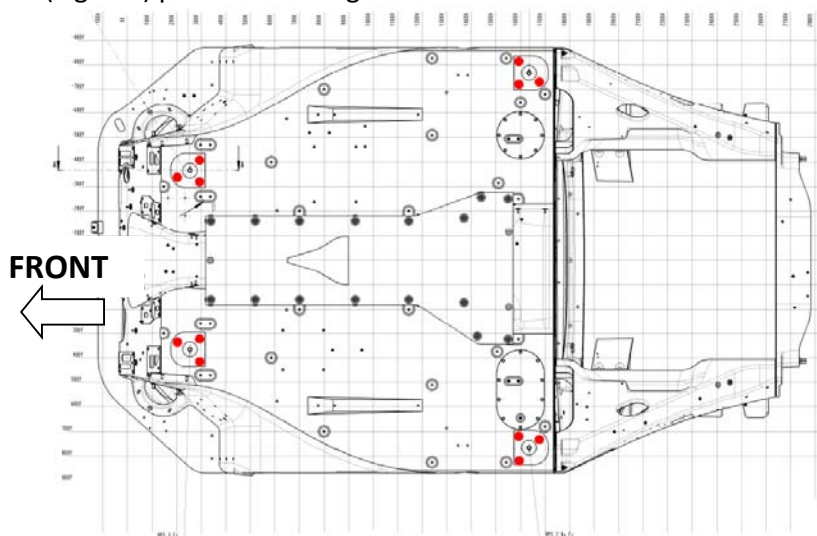

Fig 2: View from the bottom of the car, Schematic position of the fastening holes on all RPS
3. Install the drilling gauge as shown on RPS installation drawing (Fig. 2), check the gauge position (Fig. 3-5) prior to securing.